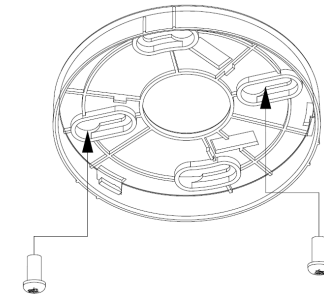

Fig. 2 – Fixing the base
6. Attach the base to the ceiling with the screws supplied (see Fig. 2).